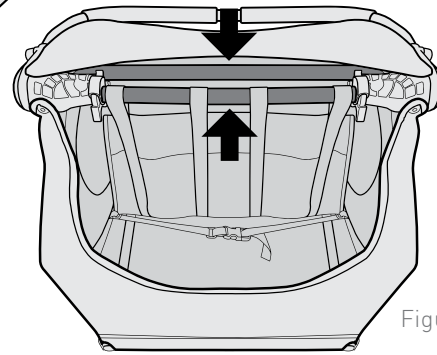

Figure 2
2. Reach through seat for rear frame tube (Figure 2).